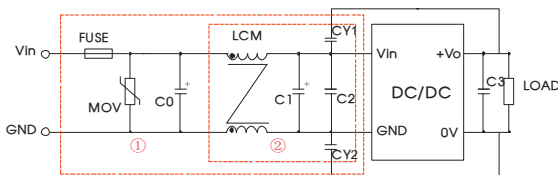

Fig. 6
Notes: Part ① in the Fig. 6 is used for EMS test and part ② for EMI filtering; selected based on needs.